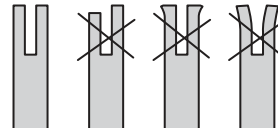

Fig. 52
- > Check the guide bar 'rail' for wear: Hold a ruler (straight edge) against the side of the guide bar and 'cutter side plates'. If there is a gap between the ruler and guide bar the guide bar 'rail' is normal. If there is no gap (ruler flush against the side of the guide bar) the guide bar 'rail' is worn and needs to be replaced with a new one of the same type (Fig. 52).